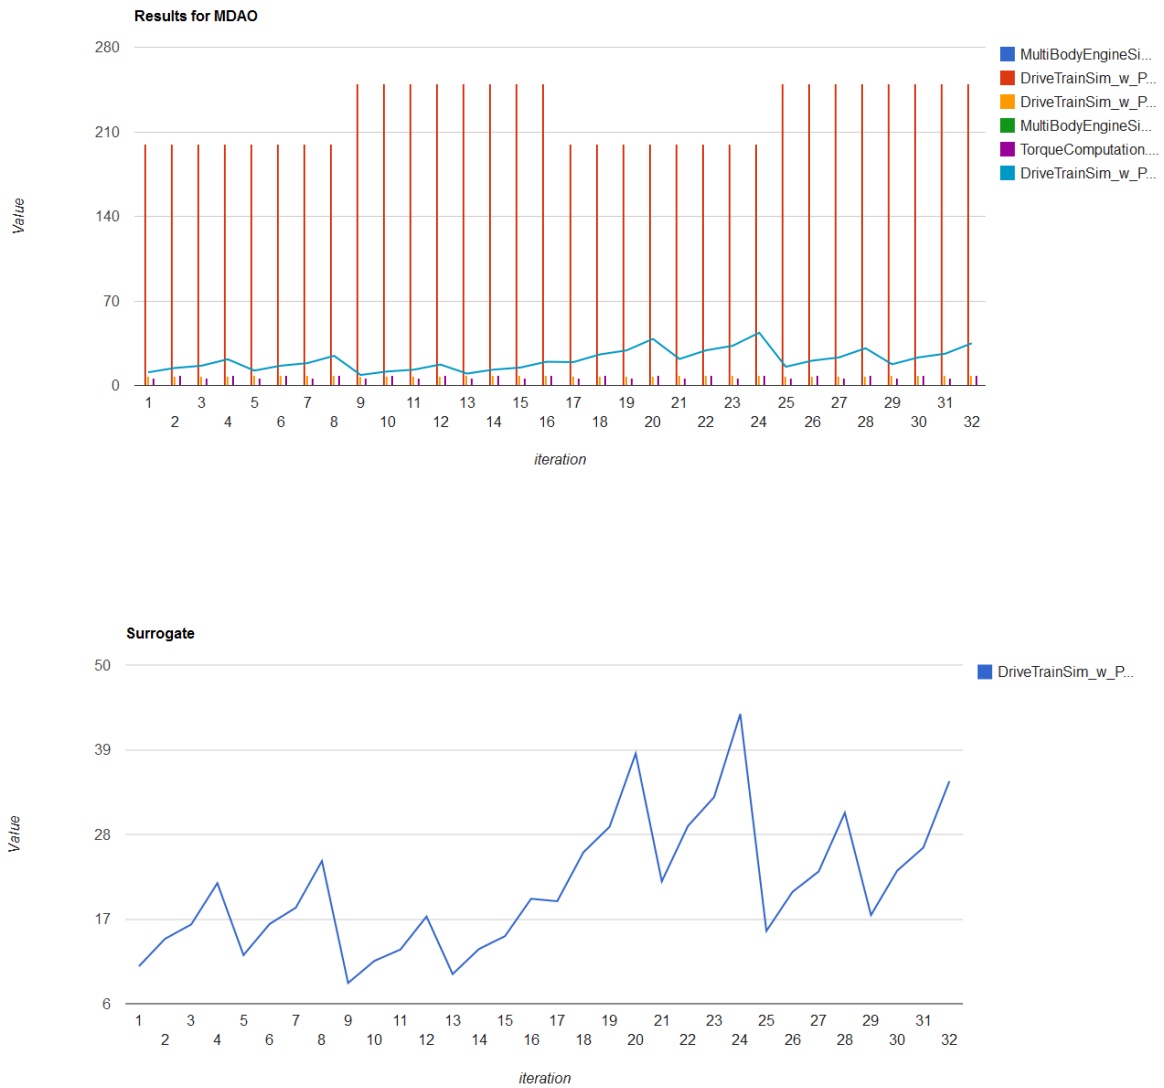

Figure 10. Results of DOE
Close OpenModelica and return to the GME Main Editing Window. Double-click on the `MultiExperiment DEMO/PET_Experiment_Demo` model to open it. Once the screen is active, the user needs to run the CyPhyPET interpreter by clicking on the  icon along the top of the GME window. The interpreter generates a `CyPhyPETInterpreter` folder in the same directory as the GME project. This folder contains several files including seven (7) python scripts, one (1) html file, and one (1) cmd file. Double-click on the `PET_Experiment_DEMO.cmd` file to run the PET Demo. The simulation will compile the Modelica models into executables, run the DOE experiment, and save the results into files. Once the simulation ends, an `mdao_index.html` file will be generated. The user will need to open this file in a web browser (tested primarily with Firefox) to view the results of the DOE (see Figure 10).